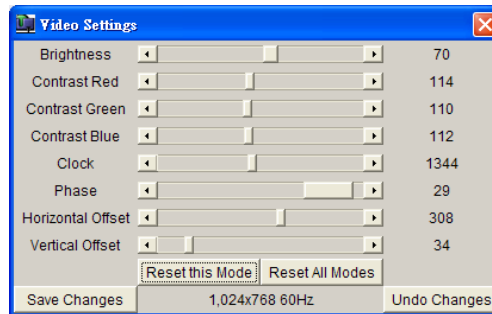

Figure 11-8
- Video Settings: This feature allows you to configure the advanced video settings. Please refer to Figure 11-8.